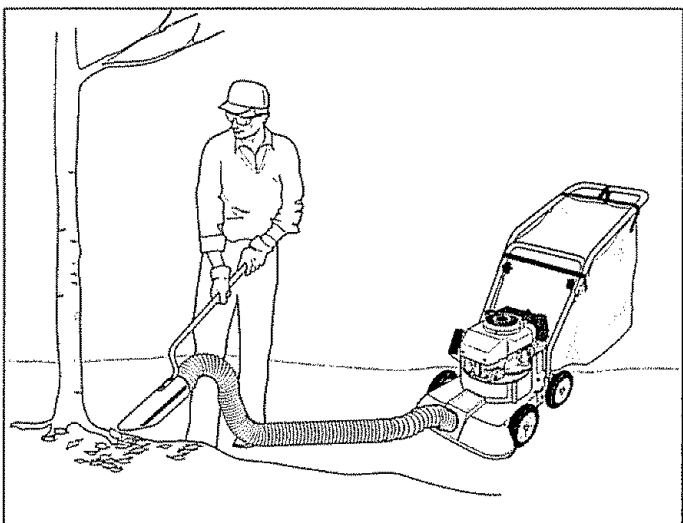

Figure 24: Using the vacuum hose.
3. Use the handle attached to the hose to easily maneuver the hose around corners, underneath bushes, etc. See Figure 24.